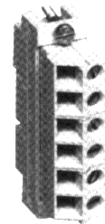

Figure 7: 6-position removable terminal block (CCA 606)
- 6-position removable terminal block CCA 606 (figure 7)